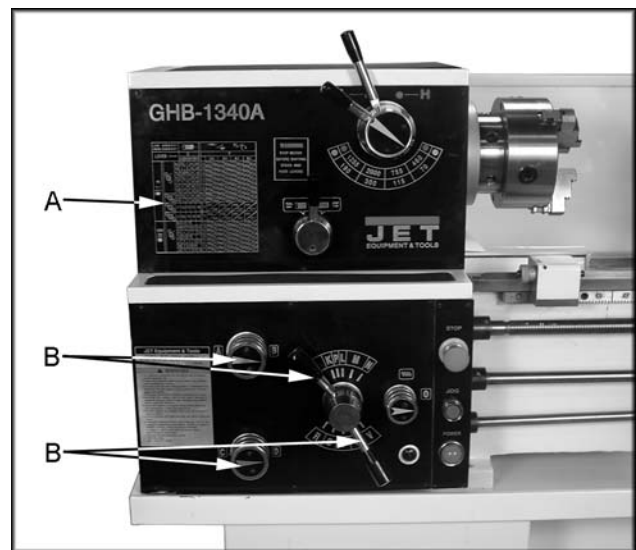

Fig. 14
1. Reference the feed and thread table (A, Fig. 14).
2. Move knobs and handle (B, Fig. 14) to the appropriate position.